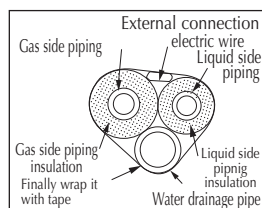

Fig.3
2.Take out the piping from the body case, wrap the piping's electric wire and water pipe with tape and put them through the piping hole. (As show in Fig. 3)